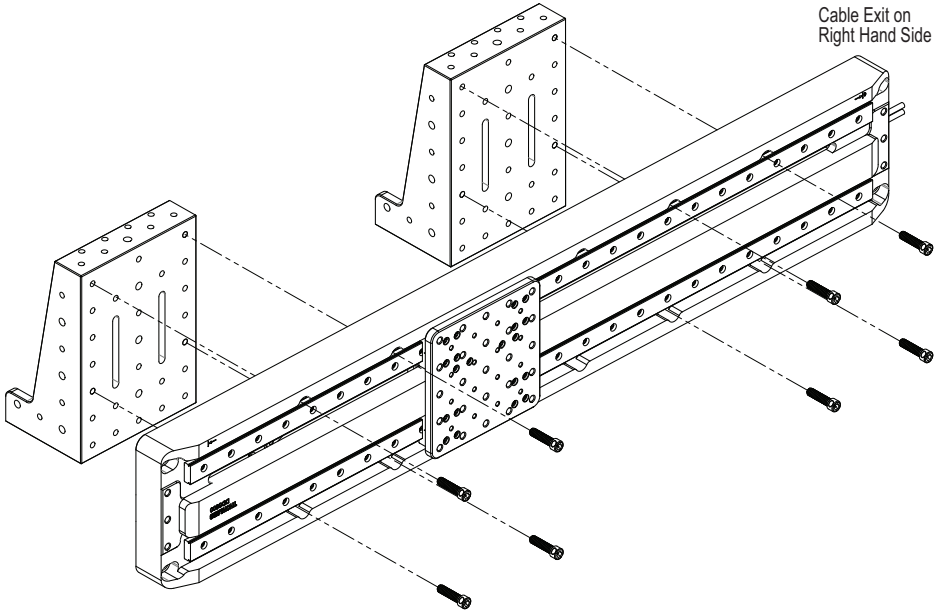

Fig. 3.2 Side mounting
The stage can also be mounted on its side, using two AP90RL(M) brackets - see Fig. 3.2. Using a diagonal pattern, tighten all four mounting bolts.